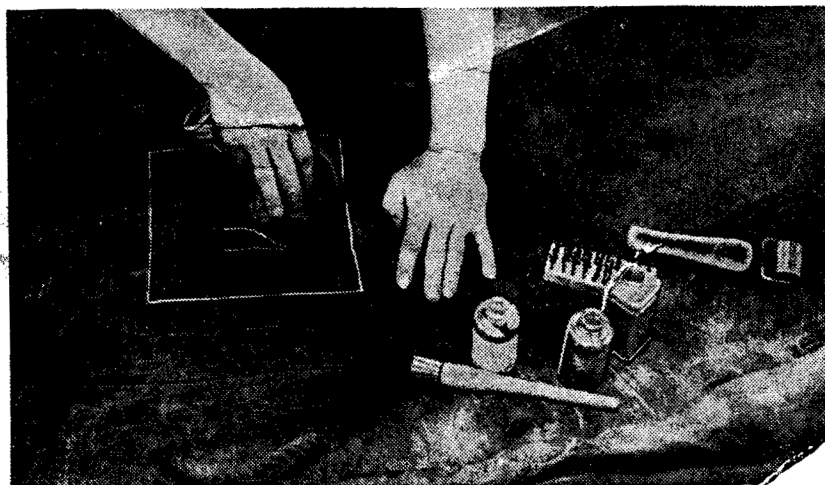

Figure 9. Washing buffed area.
4. Wash all buffed areas with clear gasoline, benzine, engine or carbon tetrachloride, using as little as possible of these solvents. (Fig. 9.)